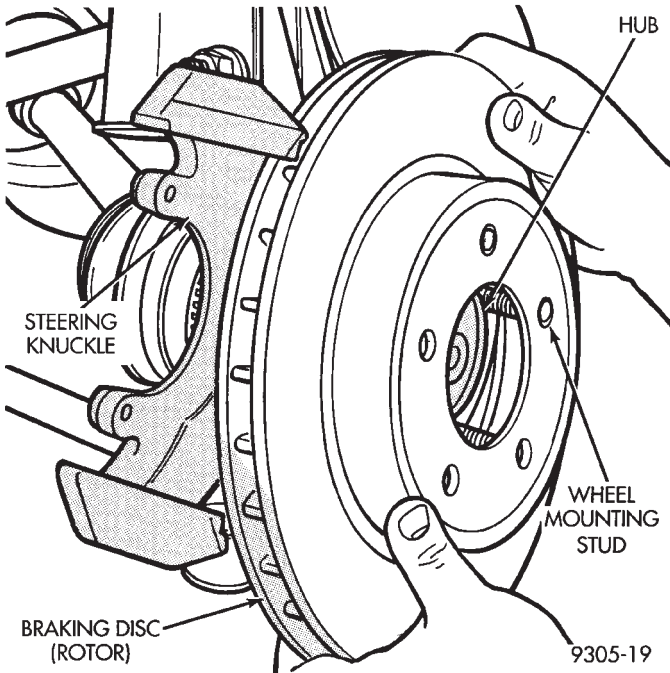

Fig. 3 Removing Braking Disc
(4) Remove front braking disk (rotor) from hub, by pulling it straight off wheel mounting studs (Fig. 3).